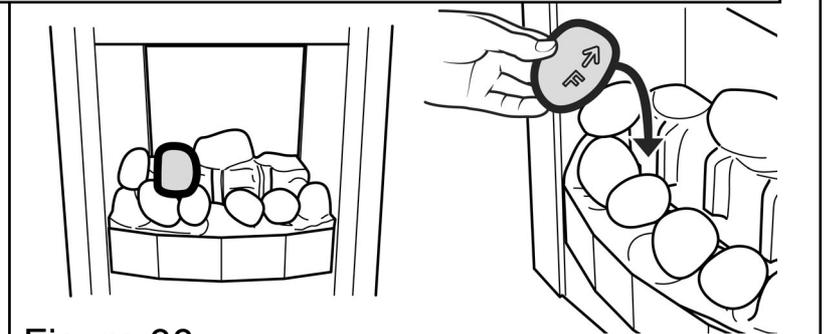

Figure 38.
9. Hold pebble 'F' upright with the arrow pointing to the top. Place pebble 'F' between the front and rear base pebbles. It should rest on top of pebble 'A' & 'B'. (See figure 38).